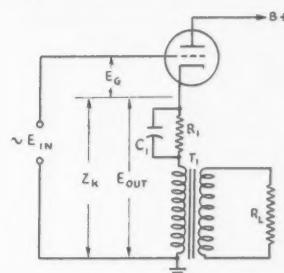
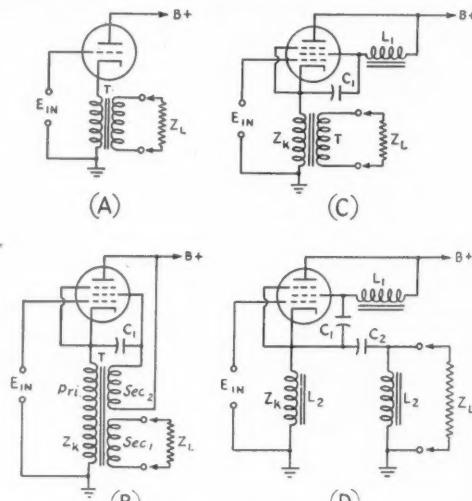
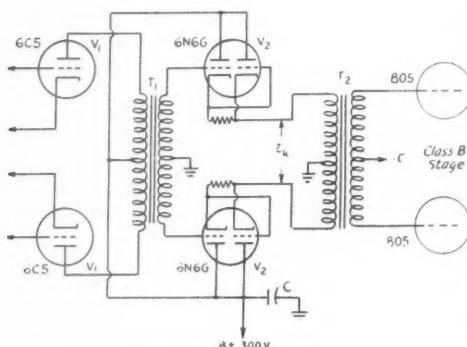

Fig. 1 — Triode cathode-follower power amplifier.
Fig. 2 — Single-ended stages with cathode coupling.
Fig. 4 — Cathode-coupled push-pull triode stage.
For an explanation of the amplifier characteristics referred to above, let's examine Fig. 1. This is the simplest type of cathode-follower power amplifier. In this circuit R_1 is used to supply additional bias since the d.c. resistance of the output transformer primary is generally too low to provide adequate bias. Condenser C_1 is of such a value that its reactance is negligible at the lowest frequency. If this is so, then the cathode impedance, Z_k , will be the primary impedance of the transformer T_1 . This impedance will, of course, be a complex impedance, but over the mid-frequency range may be considered as resistive. Assuming that a signal in the mid-frequency range is applied, on the positive half of the cycle the grid is driven positive which increases the plate current. This current flowing through the cathode impedance will produce a voltage drop making the cathode more positive with respect to ground. With respect to ground, the cathode and grid voltages are in phase. The effective driving voltage, however, is the voltage between the grid and cathode, labeled E_g , and, since E_{in} and E_{out} have the same polarity with respect to ground, they are effectively in series across the grid-to-
It is this feature which provides good frequency response with poor-quality transformers. For example, a common way of reducing the cost of a transformer is to reduce the number of turns. This results in lower inductance and poor low-frequency response. However, in the cathode-follower circuit, the decreasing impedance of the transformer primary with a decrease in frequency which results from the decreasing reactance of the primary inductance, causes the phase of the output voltage to change with respect to the input voltage. Thus the cancellation will be less and E_g will increase, causing the tube to be driven harder. For an explanation of the good-regulation feature, reference again is made to Fig. 1. With E_{in} constant, any tendency for E_{out} to rise, as might accompany the sudden removal of the load, would reduce E_g , and this in turn would reduce E_{out} , thus tending to stabilize the output voltage for any given input voltage, regardless of any decrease in load from full load. This regulation also can be seen from the formula for voltage gain of a triode cathode-follower. The voltage gain is
Thus far the discussion has been devoted to the use of triodes. Pentodes or beam tubes also may be used and are even superior to triodes. Their use requires an additional provision to keep the cathode and screen at the same a.c. potential so that true pentode operation may be secured. In a conventional amplifier the screen grid is bypassed to ground, as is usually the cathode. The screen therefore is maintained at a constant d.c. potential above the cathode but they are both at effective a.c. ground potential. The input signal then causes the plate voltage to vary up and down while the cathode and screen voltages remain fixed. In a cathode-follower circuit, however, the plate voltage remains constant and the cathode rises and falls in accordance with the input signal. Thus, if true pentode operation, and as a consequence full power output, is to be obtained, the screen grid must be made to rise and fall with the cathode. Two methods of accomplishing this are shown in Figs. 2 (B) and 2 (C). Fig. 2 (B) makes use of a special transformer, T , with a third winding, labeled Sec_2 . This winding has the same number of turns as the primary, $Pri.$, and is connected so that the screen and cathode voltages are in phase. It can be readily seen that if Sec_2 and $Pri.$ have the same number of turns, there will always be a fixed voltage difference between the screen and cathode. This voltage difference will be equal to the d.c. voltage applied to the screen. The condenser C_1 is added to make negligible any variation in the transformer construction and to insure zero phase difference between the two voltages. Its value should be large so that the reactance is small at the lowest frequency. In Fig. 2 (C) the same
Four types of single-ended cathode-follower power-amplifier circuits are shown in Fig. 2. No provision for d.c. bias is shown since this may be added in a similar manner to that shown in Fig. 1. Fig. 2 (A) uses a triode and has been fully covered in the foregoing discussion. Although Figs. 2 (B) and 2 (C) are shown using pentodes, the circuits are equally applicable to beam tubes. The difference between these two circuits is the manner in which true pentode operation is obtained. The gain and power output is the same for both. Since tube data usually give the transconductance instead of the μ for pentodes, the following formula is to be preferred in calculating the gain of single-ended pentode or beam-tube cathode-followers.
How this knowledge of the gain is made use of will be covered in more detail in the design section which follows. Fig. 2 (D) utilizes a single-section high-pass π filter as the coupling network. Again a pentode has been used for illustrative purposes, although a beam or triode tube might be used as desired. The gain is calculated from Eq. (4) and Z_k may be assumed to be equal to Z_L . In designing this coupling network, F_c , the cut-off frequency, is chosen to be slightly lower than the lowest frequency it is desired to pass, and the capacity of C_2 is given by
The push-pull versions of the circuits in Fig. 2 are shown in Figs. 4, 5, 6, and 7. Fig. 4 uses a pair of 6N6Gs to represent the triode-type of cathode-follower. The 6N6G actually is two triodes con-
The design procedure for the triode cathode-follower stage in Fig. 4 starts with the selection of the Class-B input transformer, T_2 . If the Class-B stage is assumed to be a pair of 805s, the peak load represented by their grids will be approximately 5000 ohms across half of the secondary, and since the correct load for the 6N6Gs is 10,000 ohms, plate to plate, a transformer with an impedance ratio, primary to one-half the secondary, of 2 to 1, or a turns ratio of 1.41 to 1, will be required. The tube manual supplies the information that the 6N6Gs will deliver 8 watts of power across this 10,000-ohm load. The peak voltage delivered across this load will be